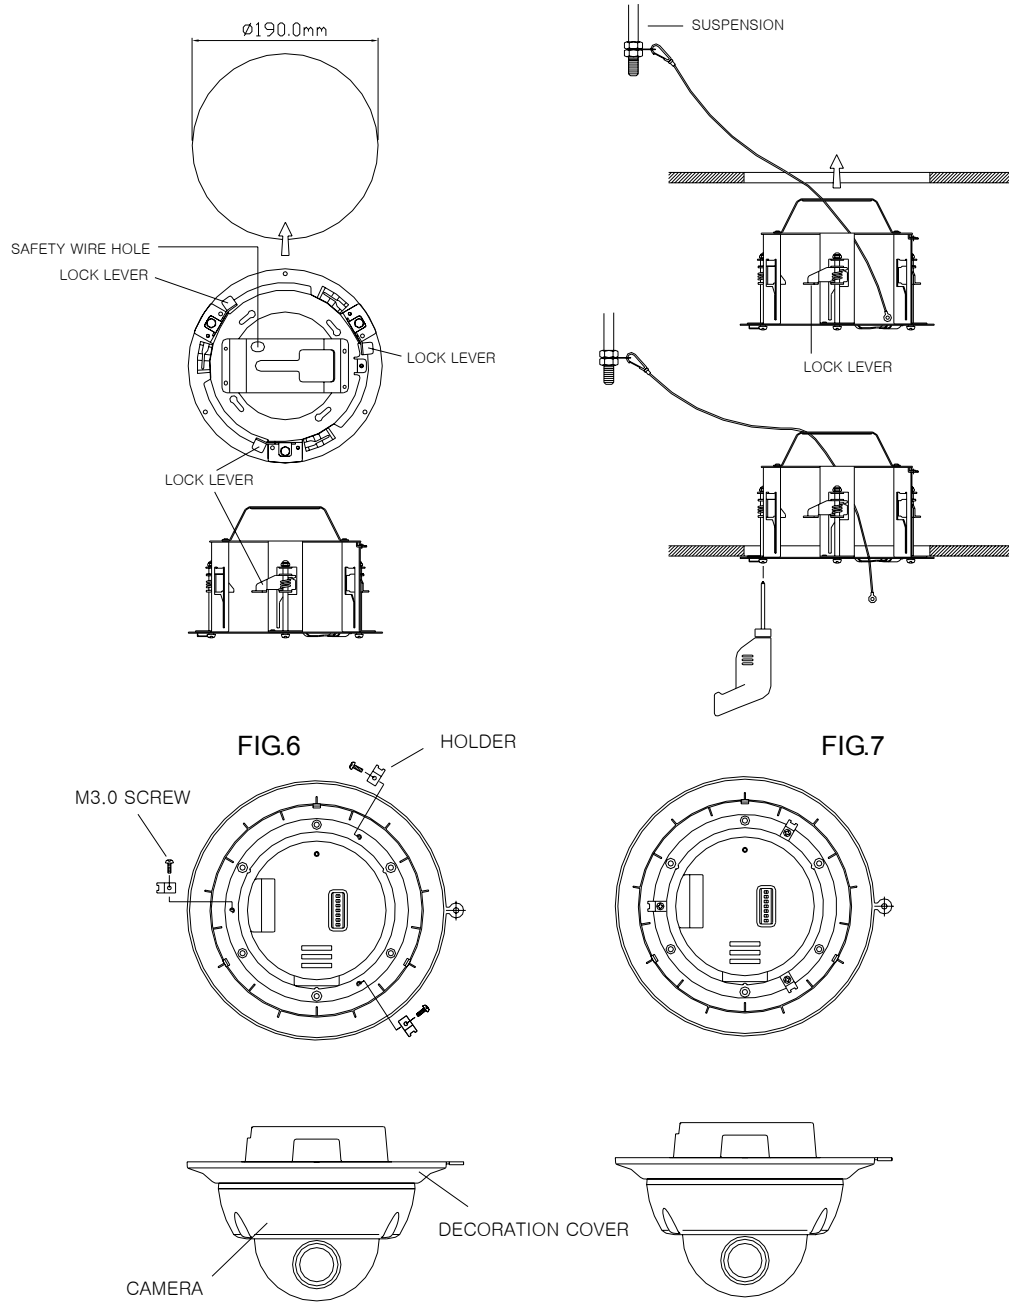

FIG.8
3. Fix the decoration cover on the rear of camera by holder screws (M3.0) (FIG.8)